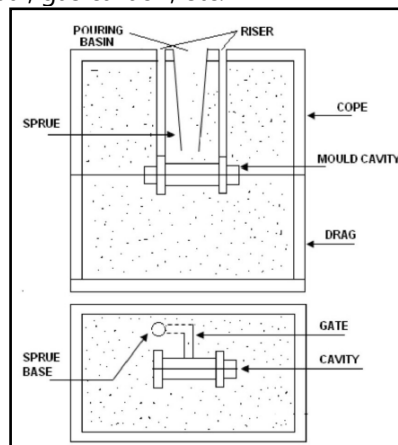

Figure 2.1. Mould for Split Pattern
- The surface of the mould which comes in contact with molted metal forms the most important part in green-sand moulds. In order to give the casting a clean and bright surface and to prevent the sand from burning on the face of the mould a layer of facing sand is given surrounding the pattern as shown in Figure 2.1